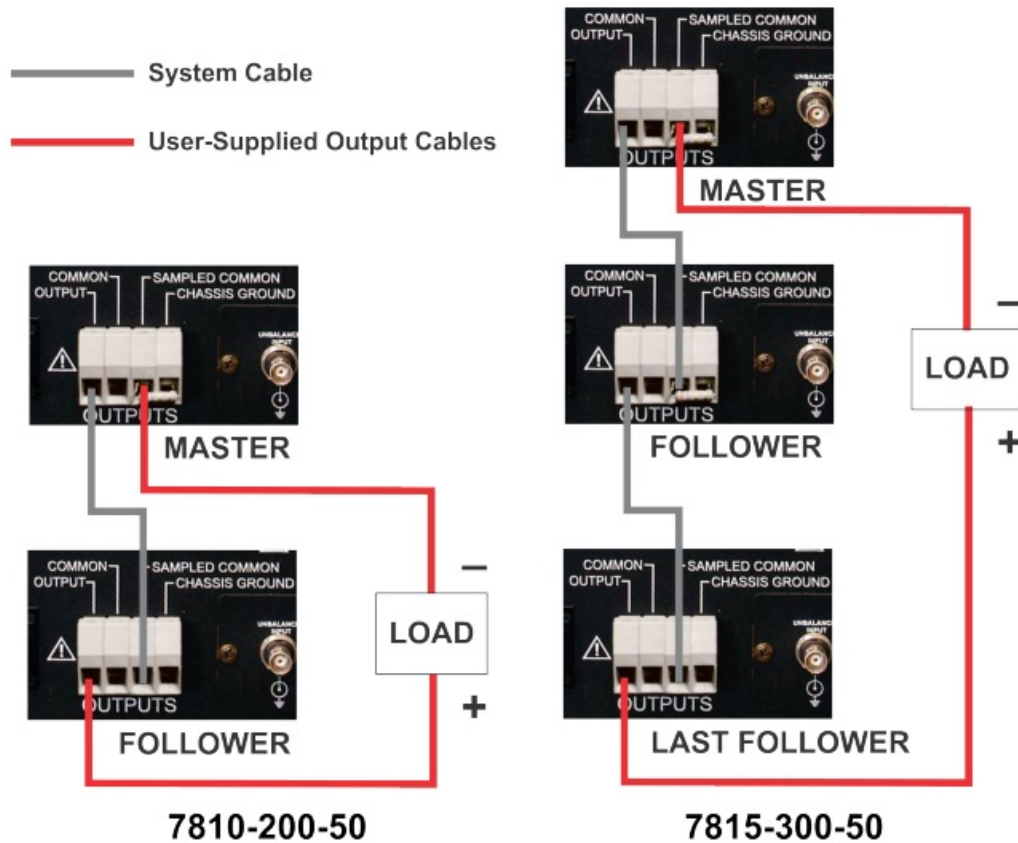

Figure 2.6 – Connecting the load
2. Locate the four-position terminal barrier block on the back panel of the Master amplifier module (see Figure 2.6). Connect the negative terminal of the load to the SAMPLED COMMON terminal.
3. Locate the four-position terminal barrier block on the back panel of the last Follower amplifier module (see Figure 2.6). Connect the load's positive terminal to the OUTPUT terminal.